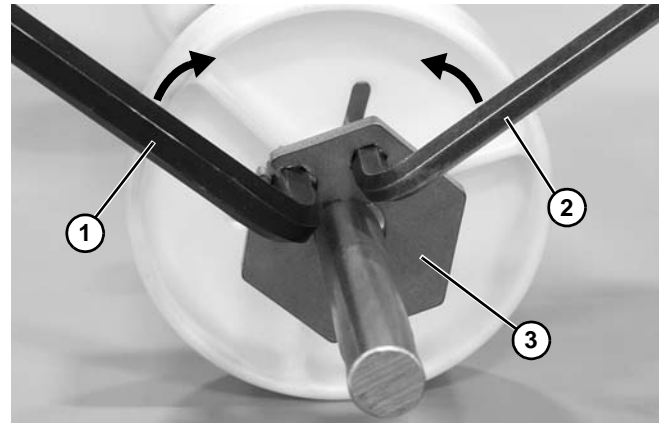

Figure 78
4. Insert an 8 mm (Figure 78, item 1) and 6 mm (Figure 78, item 2) hex wrench into the retainer plate.
5. Move wrenches toward each other to unlock the retainer plate (Figure 78, item 3) and remove from the shaft.